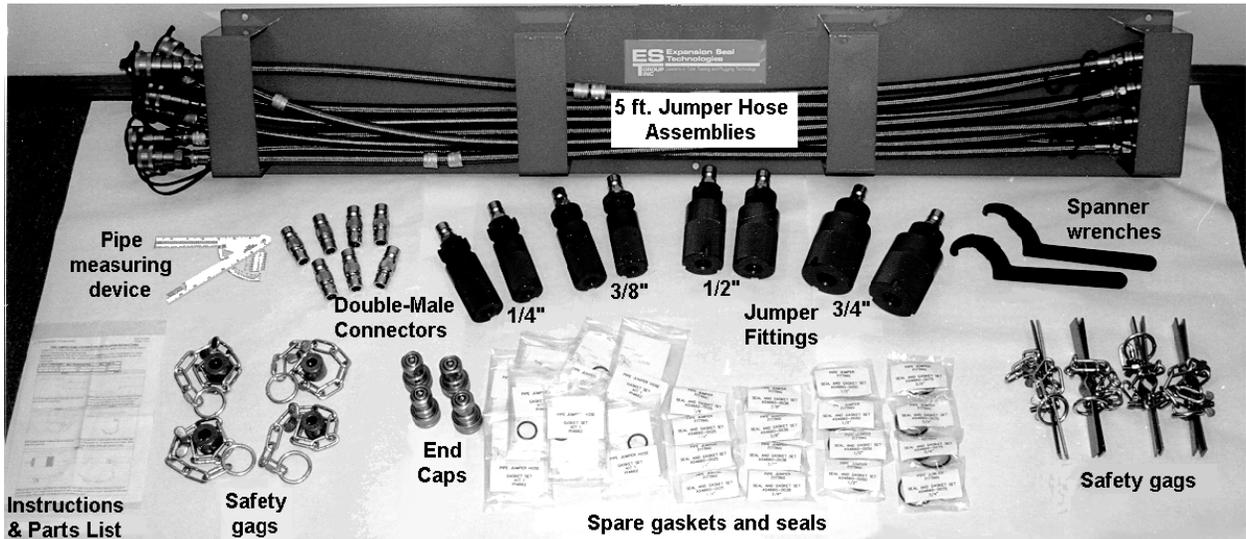

FIGURE 2-2 PJHS Kit No. 1
2-1.3. PJHS Kit No. 1 Contents. Kit No. 1 can be used for re-joining high pressure pipeline systems ranging in size from 1/4-inch to 3/4-inch Nominal Pipe Size (NPS). The kit consists of sets of jumper fittings, 7/16 inch I.D. jumper hose assemblies (manufactured from commercially available, high pressure, pneumatic / hydraulic hoses), and associated components. The Kit No. 1 jumper hose assemblies and jumper fittings are permanently fitted with valveless, quick-action hydraulic/pneumatic, type couplings. The kits' eight (8) individual five (5) foot jumper hose assemblies can be used individually or they can be joined end-to-end using the double male quick connect fittings included in the kit. A photograph of Kit No. 1 is contained in FIGURE 2-2. The Kit No. 1 parts list is shown in TABLE 5-1 on page 5-3. The Kit No. 1 parts are depicted in FIGURE 5-1 on page 5-4.